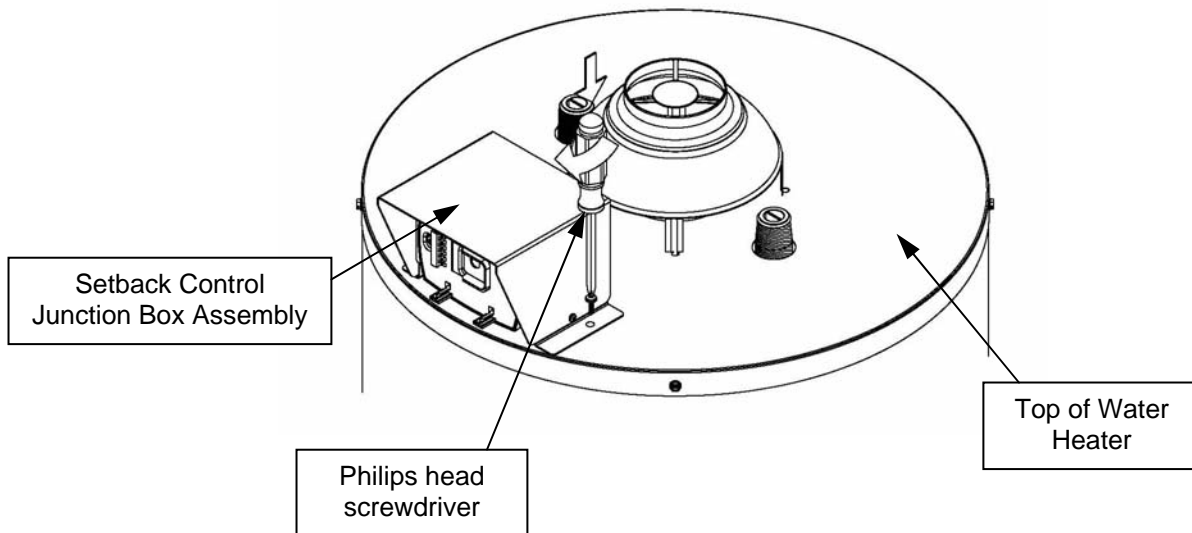

Figure 39
Step 12: Using (2) of the included Philips head screws, screw the Setback Control Junction Box Assembly to the top of the water heater, as shown in Figure 39.